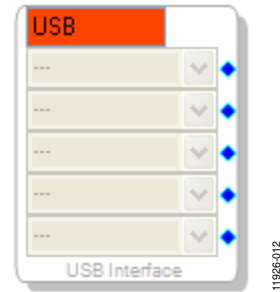

Figure 19. USBi Not Detected by SigmaStudio
- b. If SigmaStudio cannot detect the USBi on the USB port of the PC, the background of the **USB** label is red (see Figure 19). This may occur when the USBi is not connected or when the drivers have been installed incorrectly.